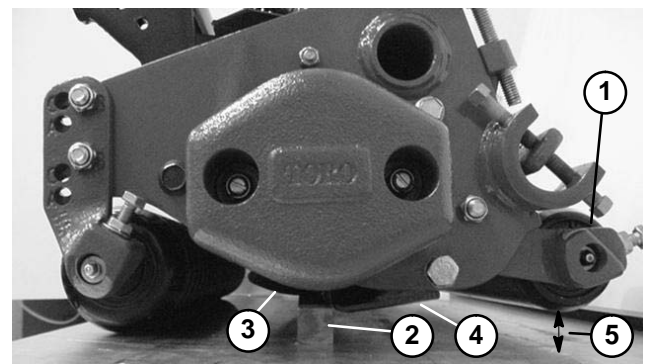

Figure 16
1. Place a 1/2 in. or thicker plate under the reel blades and against the cutting edge of the bedknife (Fig. 16). The rear roller should not contact surface.